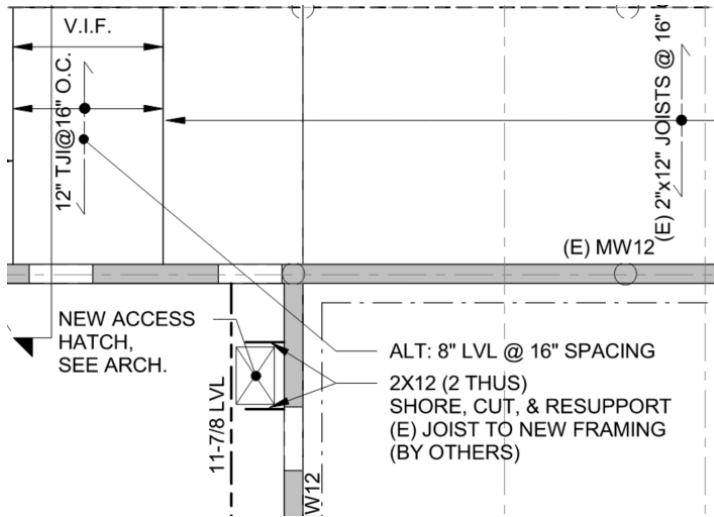

Figure 1 S-102
8. **Question:** Can you provide clarification on the specific scope of work surrounding the crawl spaces and flooring replacement scopes. It appears there are call outs that indicate Alternate work in the multipurpose room. However, this alternate would encompass floor demolition and replacement. Any further specifics of the crawl space and flooring replacement plan, particularly regarding the reuse of floor joists and the handling of columns in terms of excavation, extension, and replacement as per Figure 1 from S-102?